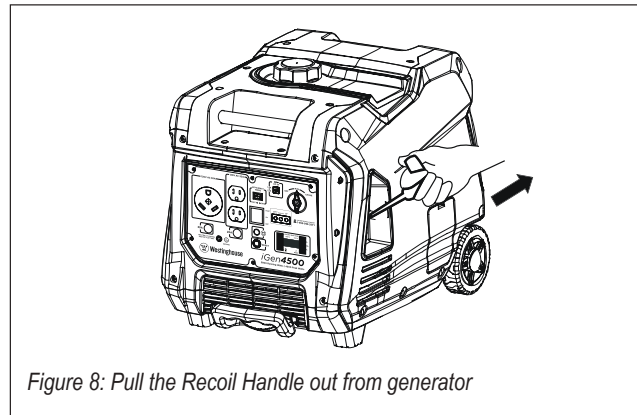

Figure 8: Pull the Recoil Handle out from generator
7. Firmly grasp and pull the recoil handle slowly until you feel increased resistance. At this point, apply a rapid pull while pulling out from the generator (see Figure 8).